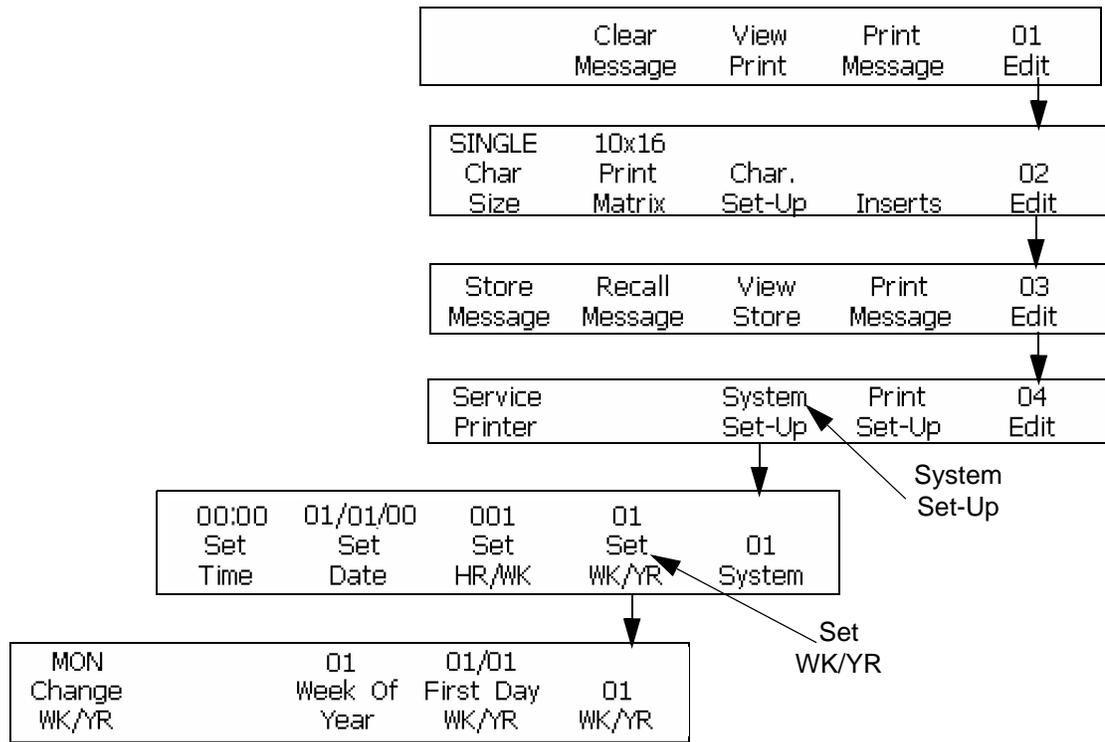

Figure 7-7: Access Frame <01 WK/YR>
The current week of the year is displayed in the frame <01 System>. Refer to Figure 7-7 on page 7-13 for directions to reach this frame.
- 1 Begin with the Frame <01 System>. Refer to Figure 7-7.